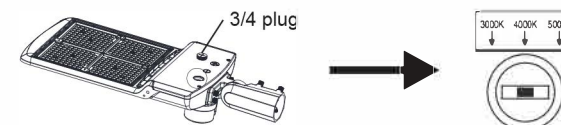

Figure 28
1. Unscrew the 3/4 plug, as shown in the figure 28